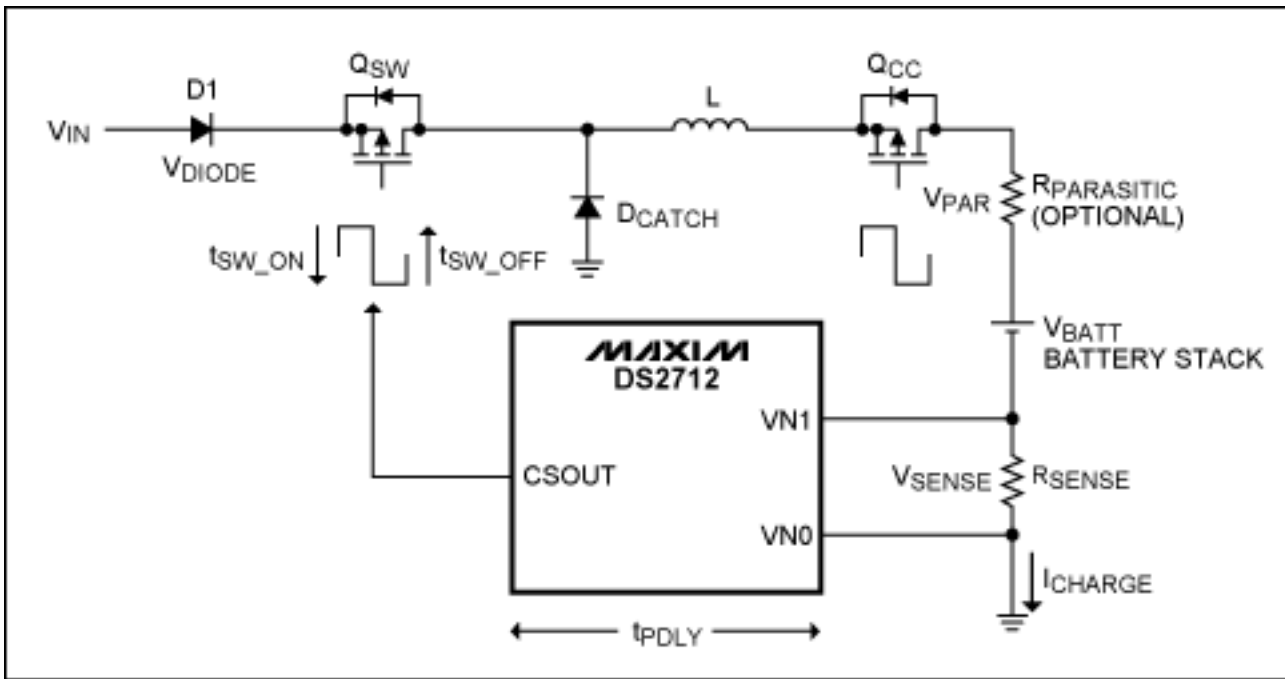

Figure 1. The DS2712 switching reference circuit.
**Figure 1** shows the equivalent circuit for a buck switching charger with a battery and sense resistor load. The DS2712 architecture operates by regulating the voltage across  $R_{SENSE}$  to a preset value for all charging modes. The sense resistor value, along with this preset reference voltage, then controls the value of  $I_{CHARGE}$ . For NiMH batteries, four stages of charging are preferred—all of which (Precharge, Fast-Charge, Topoff, and Maintenance) are regulated through the voltage across the sense resistor in the DS2712. The precharge and topoff states operate at 25% of the average current regulated during fast-charge. Maintenance mode operates at 1/64th the fast-charge current.
In order to simplify the switching-speed approximation, let us make the assumption that the voltage across the inductor for each  $Q_{SW}$  state stays constant. Let us also assume that the midpoint of  $V_{SENSE}$  from peak to peak [ $V_{IREF} - (0.5 \times V_{HYS\_COMP})$ ] provides a reasonable steady-state condition for calculating the inductor voltage of each state. With those simplifications in place, the voltage drop around the loop of the reference circuit in Figure 1 for the  $Q_{SW\_ON}$  and  $Q_{SW\_OFF}$  states can be calculated to yield the inductor voltage for a given battery voltage as follows: